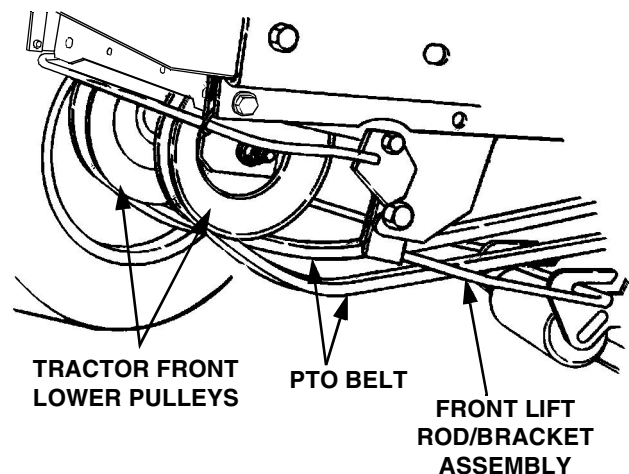

Figure 6-27
- Open the tractor hood. From the front of the tractor pass the belt upward in front of the lower front pulleys and inside the tractor frame (Refer to Figure 6-27).
- Twist the two sides of the PTO belt 1/4 turn inward to engage the narrow sides of the belt into the grooves of the two tractor front-lower pulleys (See Figure 6-27).